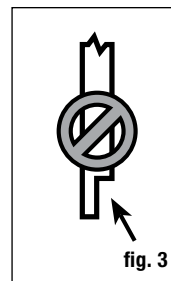

fig. 3
Step 2 Install railing posts prior to installing deck boards. Cedar or pressure-treated pine 4x4 railing posts or a post mount provides the structural strength for the railing. The length of each post is determined by the total of the joist width (typically 7-1/4") + decking thickness (1") + railing height (36") + spacing for post cap (1-1/4") = 45-1/2". Important: Do not notch the 4x4 railing posts. Notching will reduce the strength of the post and could result in railing collapse or failure (fig. 3).
Step 3 Position, plumb with a level, and clamp the railing post on the interior face of the joist. Plumb again. The 4x4 railing post should be bolted to the inside of the joist using two 1/2" x 6" galvanized carriage bolts. Corner posts use a third carriage bolt inserted through the adjacent joist (fig. 3).
Important: Do not notch the 4x4 railing posts. Notching will reduce the strength of the post and could result in railing collapse or failure (fig. 3).